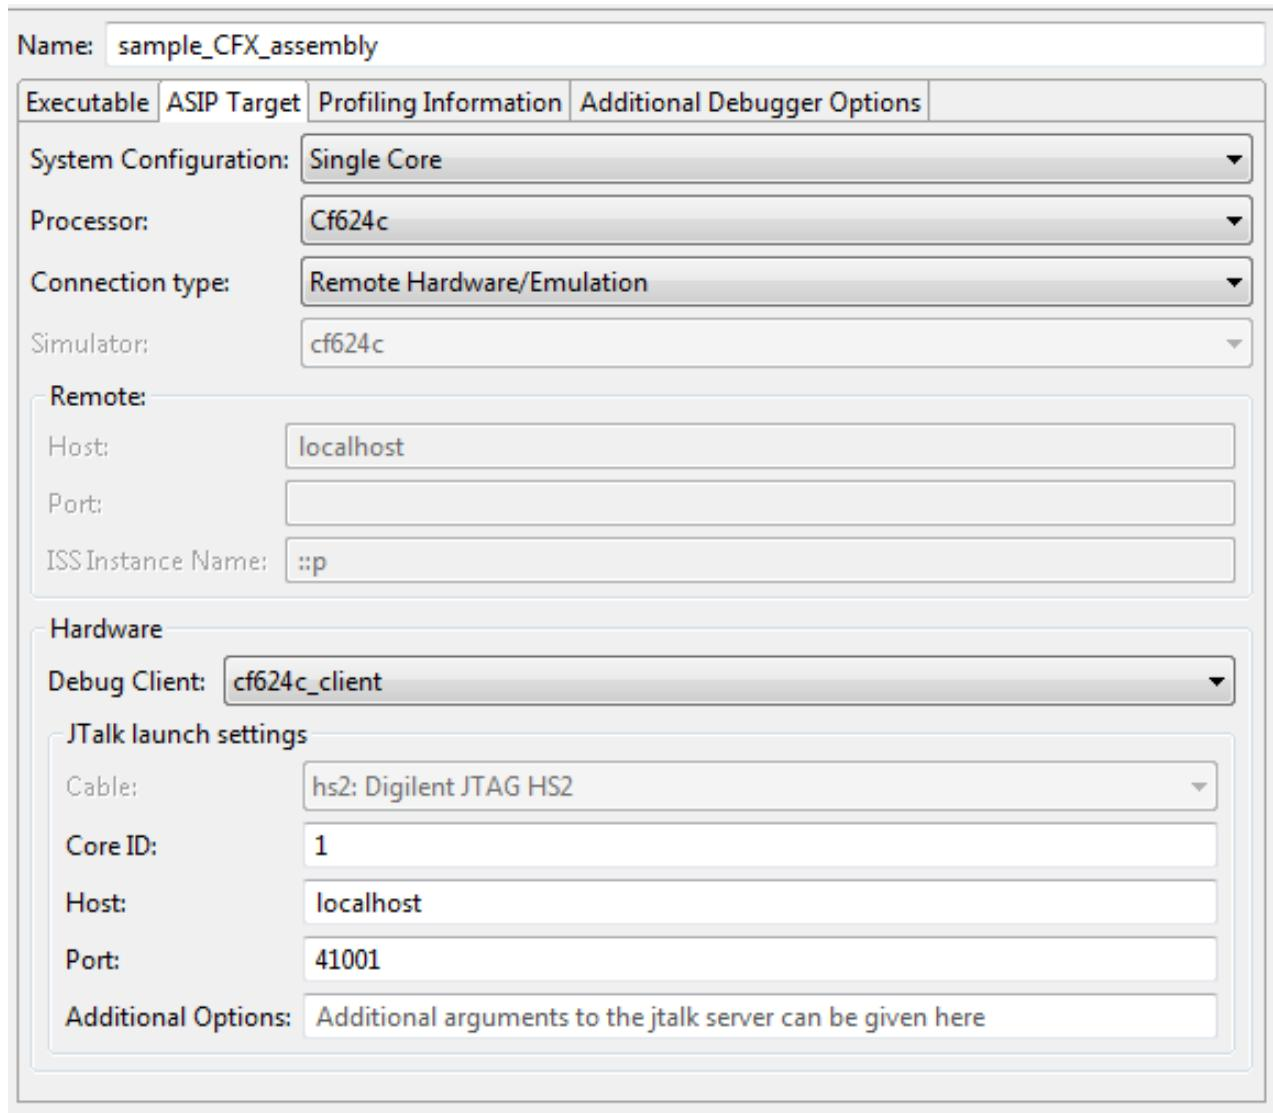

Figure 17. Selecting Connection Type for Debug Configuration
b. In the **ASIP Target** tab view, click the **Connection Type** dropdown menu and select **Remote Hardware/Emulation** (see the figure "Selecting Connection Type for Debug Configuration" (Figure 17)).